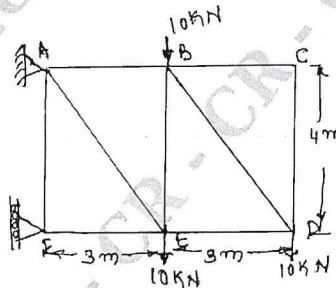

Fig.Q1(b)
- b. Find the forces in pin jointed truss members shown in Fig.Q1(b) by method of joints. Tabulate the results.